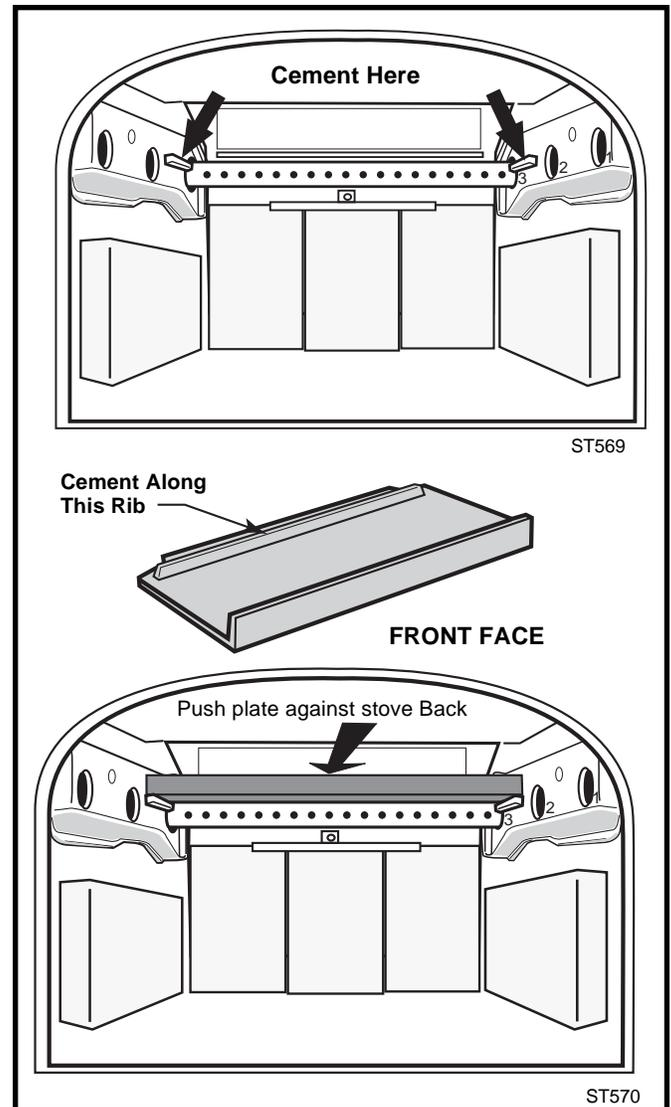

Fig. 29 Installing the Smokeshelf.
Look inside the firebox and locate the position for the Smokeshelf. It will seat against the upper Back, directly under the Flue Collar. It is supported by ribs cast into the air manifolds on either side and along the back plate. (Fig. 29)
2. Apply a bead of cement along the top of each Side Rib on which the Smokeshelf will rest. (Fig. 29)
3. Light the newspaper and close the door. Gradually build up the fire by adding a few 3-5" (80-120 mm) diameter splits. (Fig. 29) If this is one of the first few "break-in" fires, let the fire burn brightly, and then let it die out.